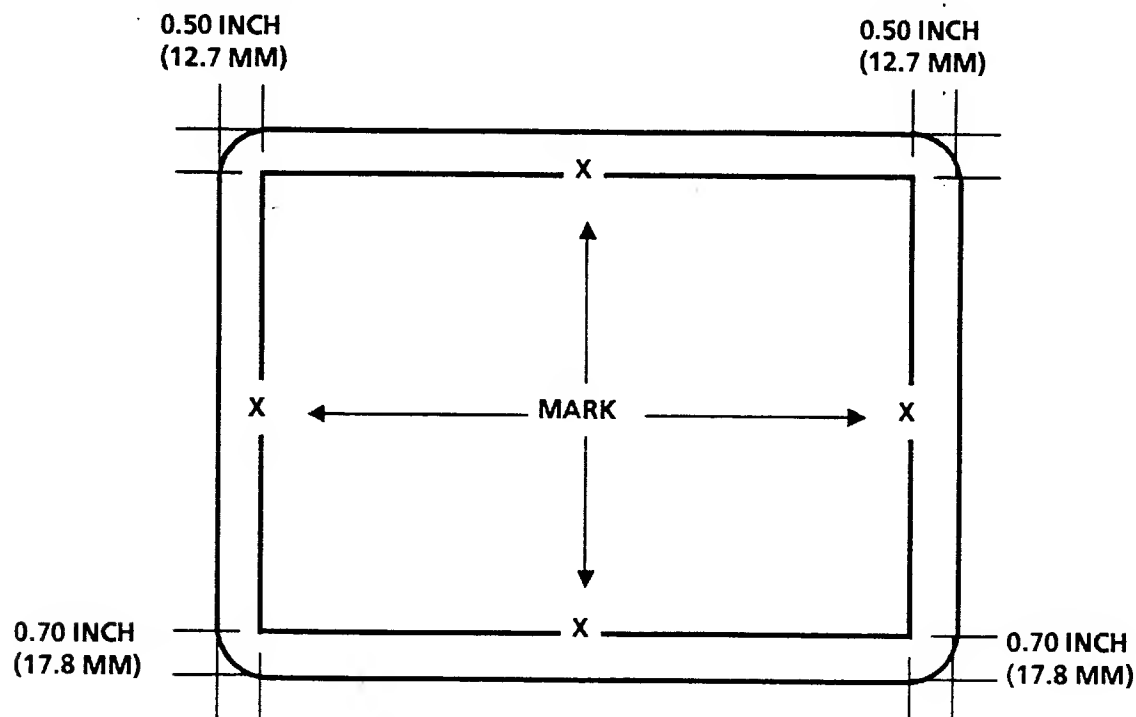

Figure 3-1 Marking Face of Terminal
ADJUSTMENT (FIGURES 3-1, 3-2, 3-3)
- a. Using a felt tip pen, mark face of CRT as shown in Figure 3-1.